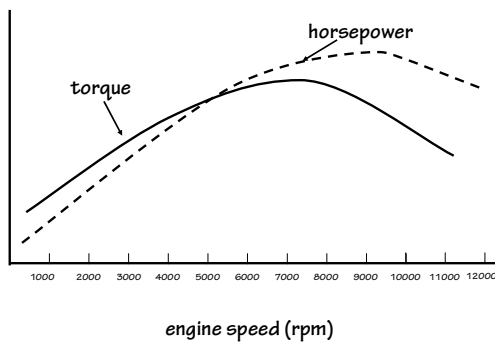

Figure 1: Power and torque curves
The radians magically go away – as radians are wont to do. Power and the torque curves are related to each other, as shown in Figure 1. Calculating power from torque in British units is done via:
Figure 1 (which is for a race engine) shows that torque and horsepower curves plotted as a function of engine speed have similar shapes. The similarity is because they are so closely related to each other. Torque and horsepower curves always cross at 5252 rpm. If you insert  $\omega = 5252$  rpm in Equation (3)a, you find that this rotational speed is where power and torque are equal. The torque curve will always peak at a smaller rpm value than the horsepower curve.
Figure 1 shows that an engine produces its maximum torque and horsepower over a narrow band. The range of speeds over which the horsepower is maximum is called the *power band*. The engine is most